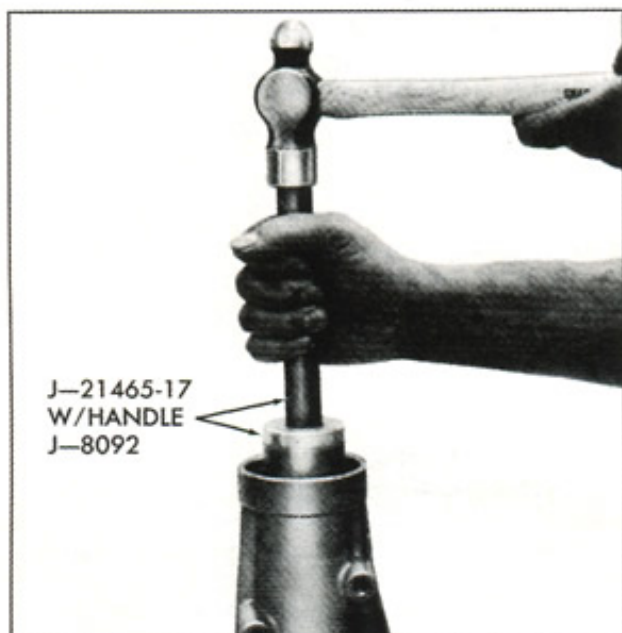

Fig. 11—Removing and Installing Rear Extension Bushing
2. Remove bushing using Tool J-21465-17 with handle J-8092. Drive bushing from rear of extension housing (Fig. 11).